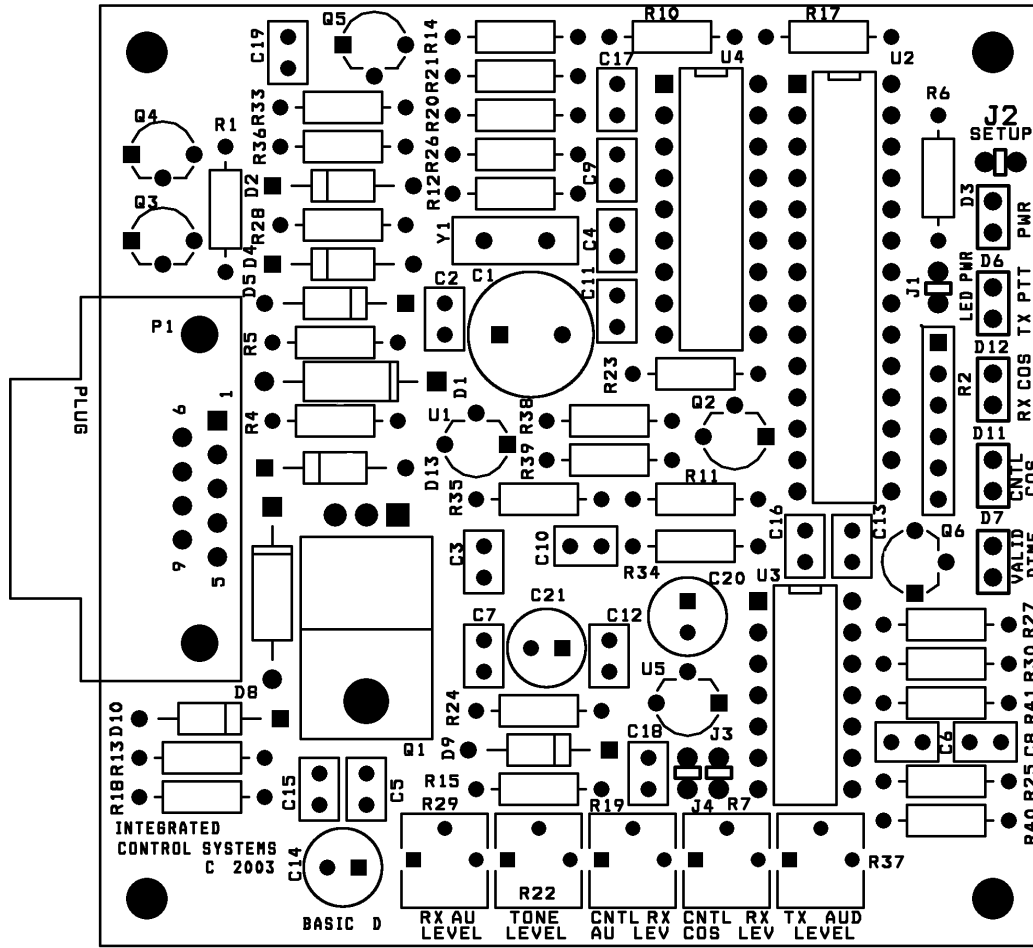

FIGURE 1
9. Next, if you have a scope available, monitor the signal on R20 on the left side of the resistor, make sure that when you are looking at the Basic board the DB-9M connector is facing left (see figure 1).
6. Next, if you have a scope available, monitor the signal on R20 on the left side of the resistor, make sure that when you are looking at the Basic board the DB-9M connector is facing left (see figure 1).